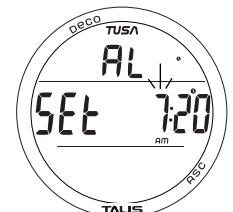

Fig. 11B - SET DAILY ALARM
**Set Daily Alarm**, information includes (Fig. 11B):